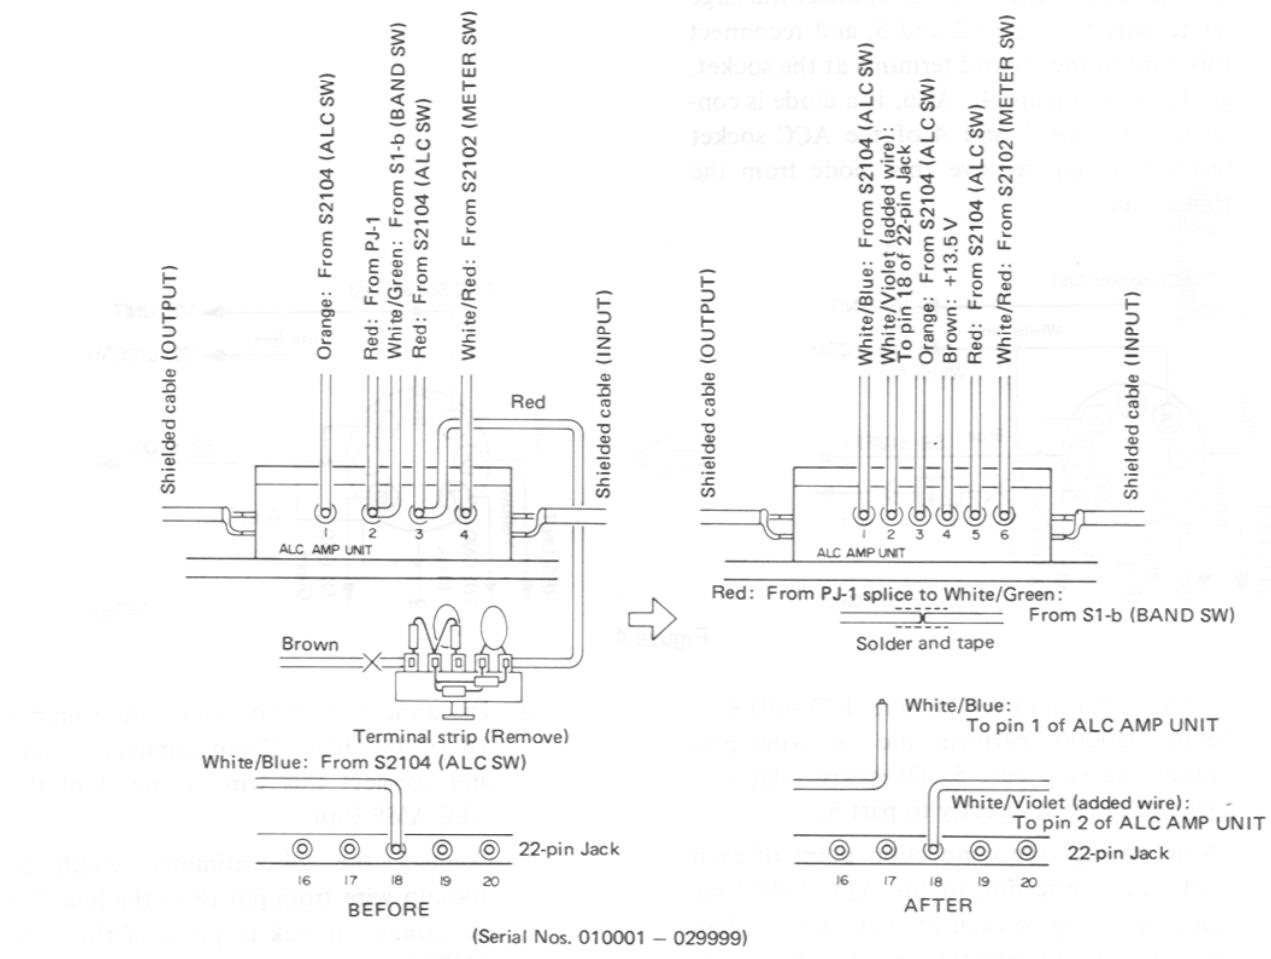

Figure 5
- Reconnect the wires to the new Unit as shown in Figure 5 and described below: